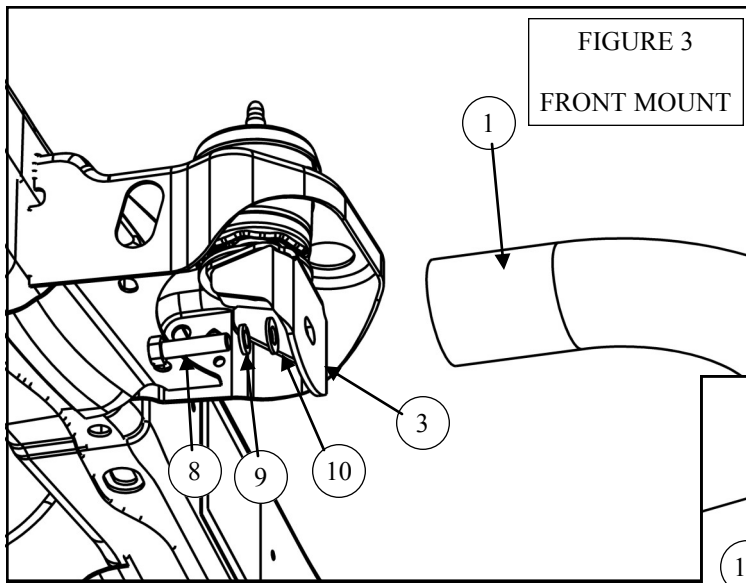

FIGURE 3
4. Attach the driver side step bar assembly to the front mounting bracket using the provided 1/2" fasteners. FIGURE 3